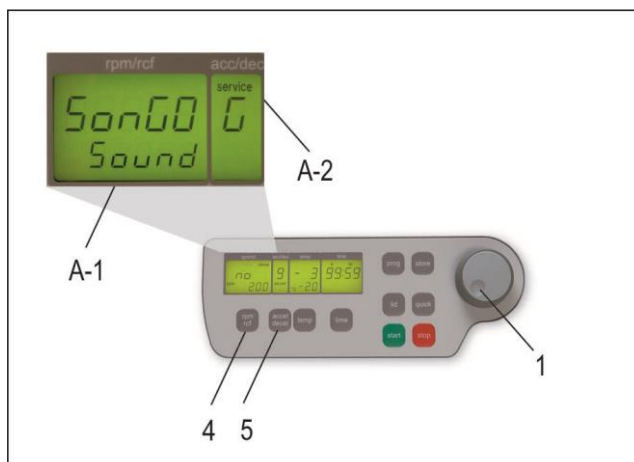

Figure 9
Proceed as illustrated under point 1.8.1 to enter this program mode, press the key "accel/decel" (5). In the display "accel/decel" (A-2) flashes the word "service". Select the letter "G" with the adjustable knob (1). As a result appearing in the display "rpm/rcf" (A-1) the word "SonGo/Sound". After pressing the key „rpm/rcf“ (4) select a song with the adjusting knob (1), (see Figure 9).